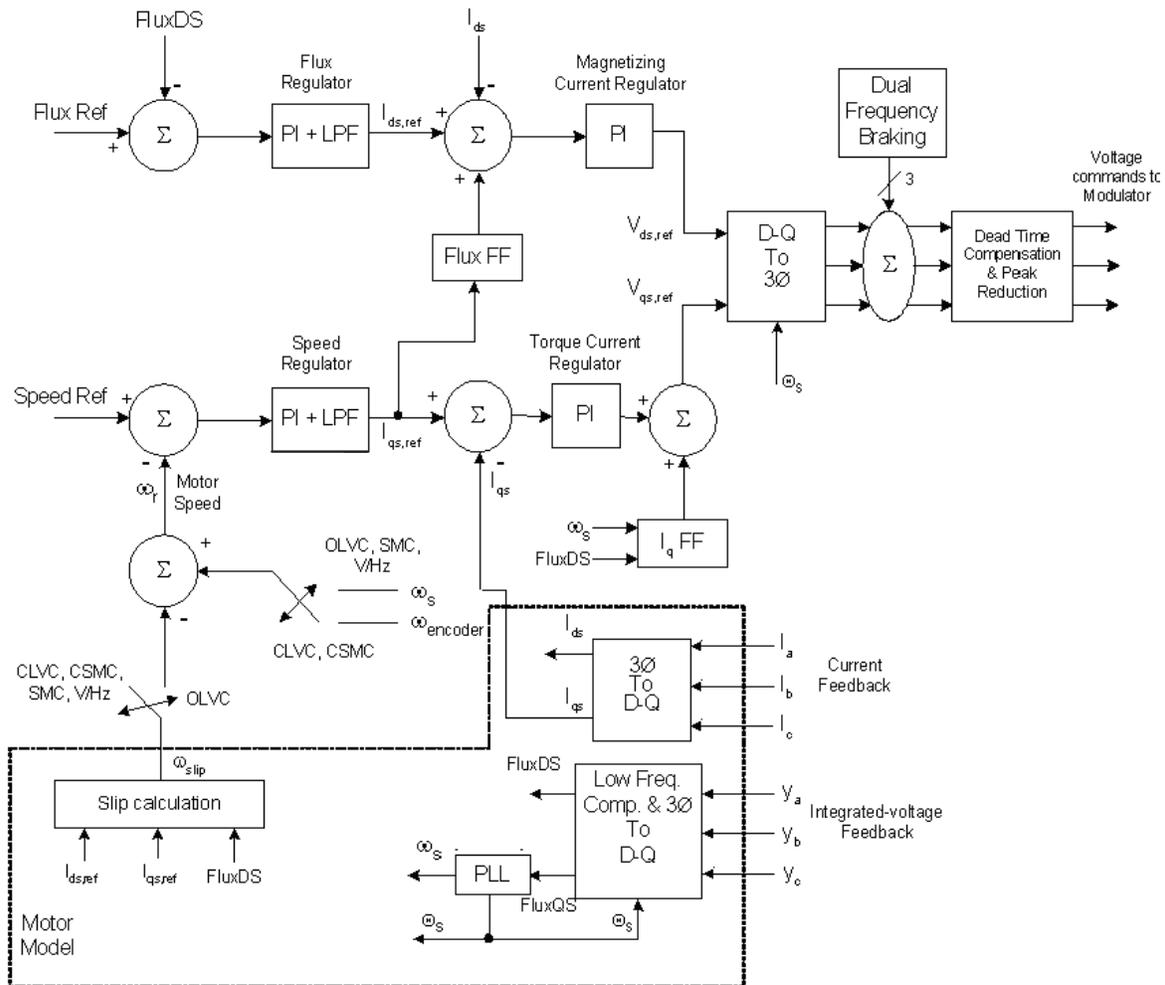

Figure 5-2: Block Diagram of VVC Control Algorithms for Induction and Synchronous Motor Control
Harmony drives use vector control to control induction and synchronous motors. Vector control provides a framework that is simple to implement, but performs nearly as well as a DC motor. Figure 5-2 shows a simplified representation of the vector control algorithm implemented in Harmony drives. The basic components of vector control are:
of the flux and torque regulators is improved with the use of feed-forward compensation (FF) as shown in Figure 5-2. The following table describes the symbols used to represent various quantities in the control diagram.
Table 5-2: List of Symbols Used in Figure 5-2
Speed feedback is synthesized from the stator frequency and the estimated motor slip, as shown in Figure 5-2. With this control method, slip compensation is automatic.
The overall control strategy is similar to Open Loop Vector Control, except for the flux regulator implementation as shown in Figure 5-2. For synchronous motors, the flux regulator provides two current commands, one for the field exciter current, and another for the magnetizing component of stator current.
The control diagram of Figure 5-2 remains the same, except for the slip calculation block, which is disabled so that encoder speed feedback is directly used as an input to the speed regulator.